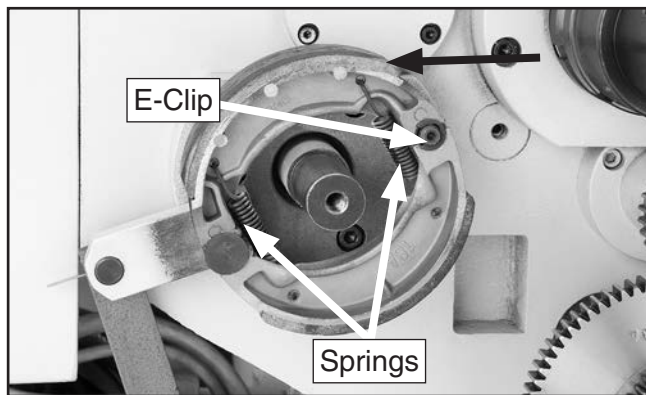

Figure 148. Brake assembly.
5. Step off brake pedal and remove pulley. **Figure 148** shows pulley removed and brake shoes exposed.
7. Put on safety glasses and remove E-clip, springs, and brake shoes shown in **Figure 148**.